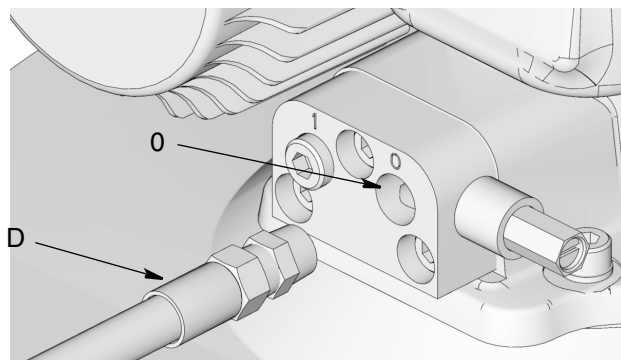

FIG. 61: Lubricant Outlet Connection
8. Connect the timer/controller (F) (user supplied, if used).
9. Connect High Pressure Lubricant Supply Line (D) to the Lubricant Output Connection (O) (FIG. 61) on the Vent Valve or Manifold.